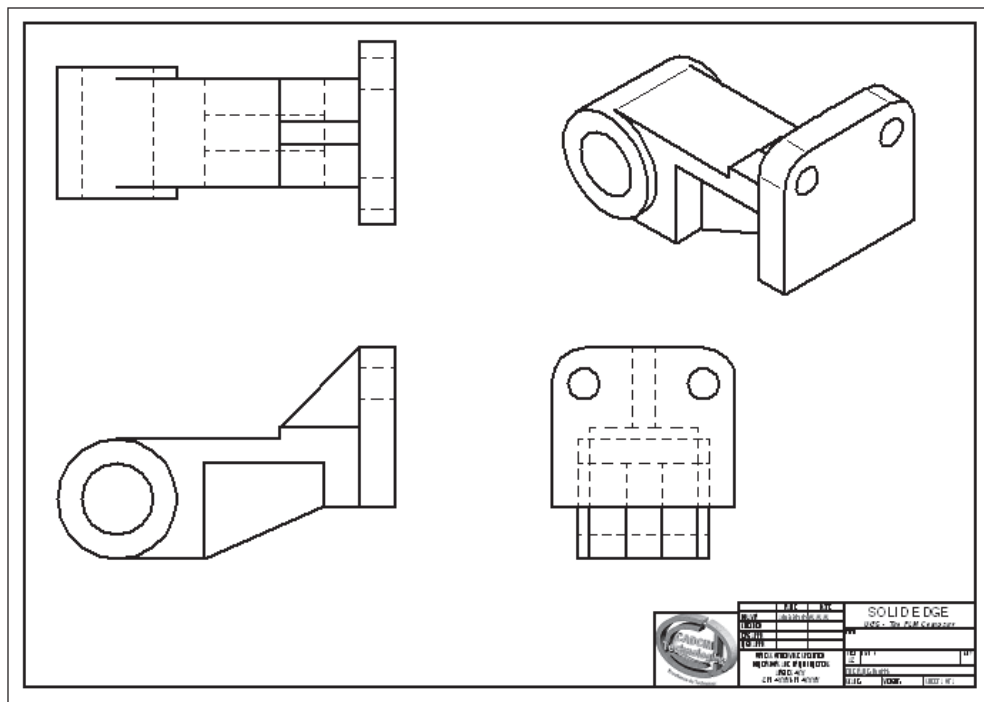

Figure 11-34 Sheet after generating all the drawing views
- d. Generate the drawing views, refer to Figure 11-34.
11. You can move the views on the sheet by dragging them. Arrange all views, as shown in Figure 11-34.